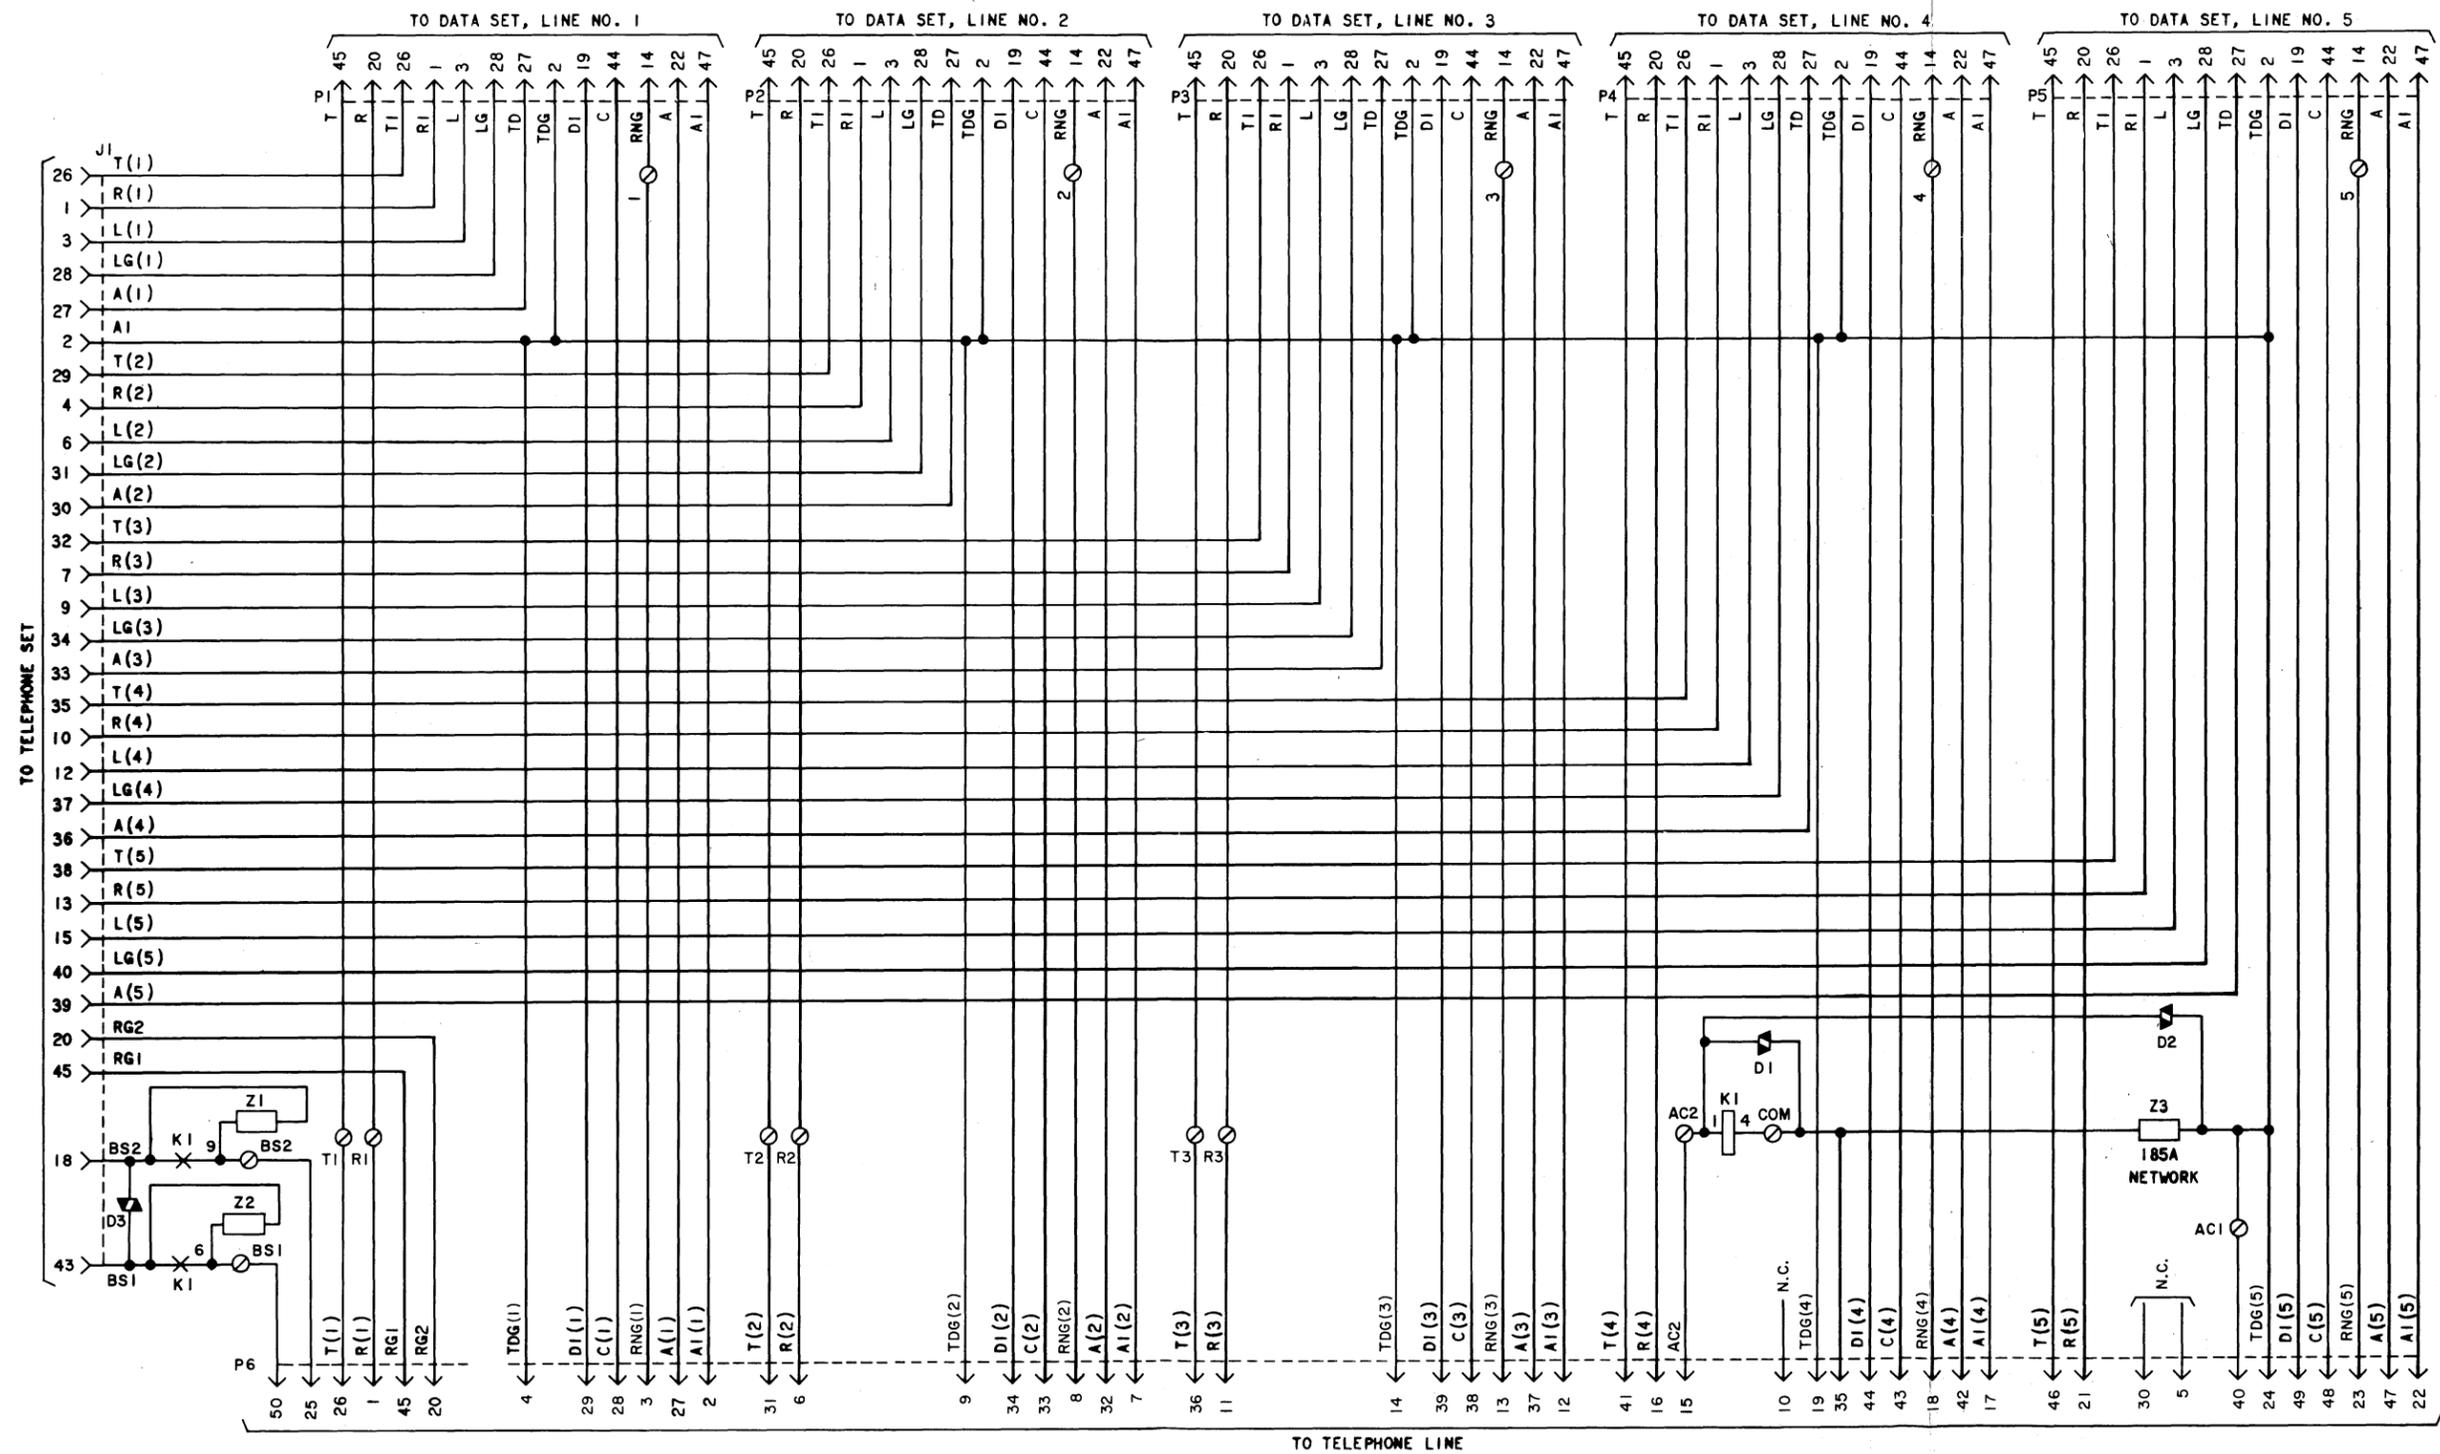

Fig. 11—Adapter for up to Five Data Sets Connected to One Key Telephone Set
4.07 The buzzer is used for the indication in order to avoid the need for a local ringing generator. If ringing is desired, the telephone set can be rewired to place the ringer across pins 18 and 43 (Fig. 11) of the telephone set connector, and the ringing current supply brought in to screw terminals BS1 and BS2 or through the telephone line connector on pins 25 and 50. In this case, the connections between terminals AC1 and BS1 and AC2 and BS2 must be removed.